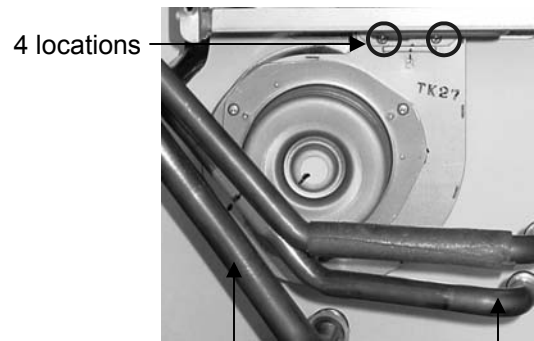

Figure 4
15. Remove the fan assembly (4 screws) and install it on the new heat exchanger. (Figure 4)
17. Install the largest O-ring (included in kit) over the water outlet tube and the two smaller O-rings (included in kit) over the water inlet tubes. (Figure 4)
18. Slide the fusible link between the water outlet and inlet tubes and onto the new heat exchanger. (Figure 4)